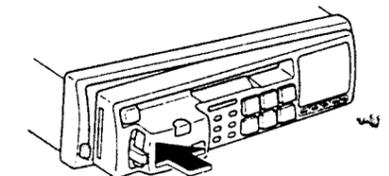

Fig. 5
2. Press on the detachable front panel at a point other than the button surface on the left side until a click is heard. (Fig. 5)